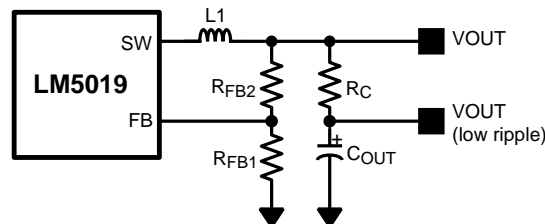

Figure 10. Low Ripple Output Configuration
This regulator regulates the output voltage based on ripple voltage at the feedback input, requiring a minimum amount of ESR for the output capacitor ( $C_{OUT}$ ). A minimum of 25 mV of ripple voltage at the feedback pin (FB) is required for the LM5019. In cases where the capacitor ESR is too small, additional series resistance may be required ( $R_C$  in Figure 10).
For applications where lower output voltage ripple is required the output can be taken directly from a low ESR output capacitor, as shown in Figure 10. However,  $R_C$  slightly degrades the load regulation.